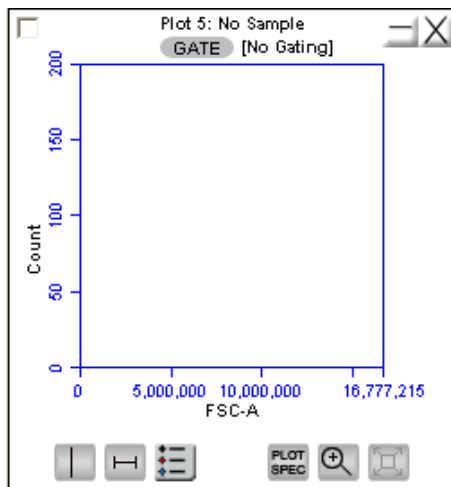

Figure 4-4. Blank Overlay Histogram Plot
- Click on the Overlay Histogram Tool  to open a blank single-parameter FSC-A plot (Figure 4-4).